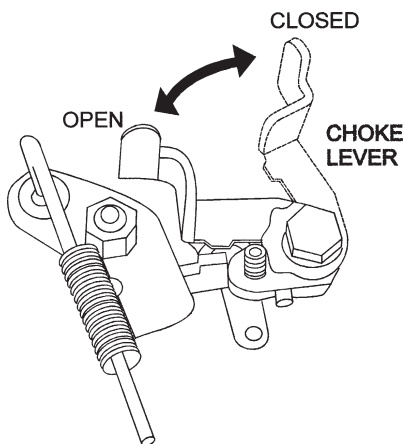

Figure 10. Choke Lever (Closed)
4. In cold weather, start the unit with choke lever "**Fully Closed**" (Figure 10). In warm weather or when the engine is warm, the unit can be started with choke halfway or completely **open**.
6. If engine fails to start, move the choke lever (Figure 10) to the half open position to avoid flooding.